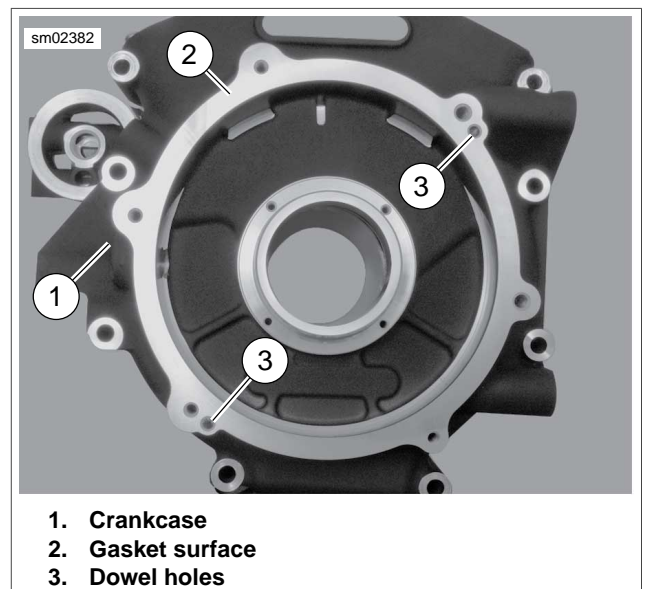

Figure 6-27. Crankcase
2. See Figure 6-27. Place crankcase gasket in place on gasket surface (2). Be sure dowels in gasket engage dowel holes (3).